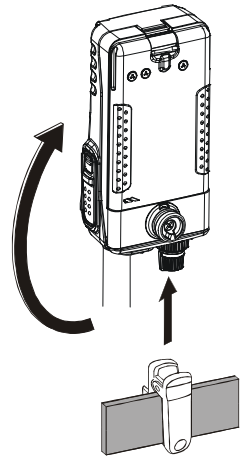

Figure 4
- ❑ To remove the **FT-270R** from the Quick-Draw Belt Clip, rotate the **FT-270R** 180 degrees, then slide the **FT-270R** out from the Quick-Draw Belt Clip (Figure 4).